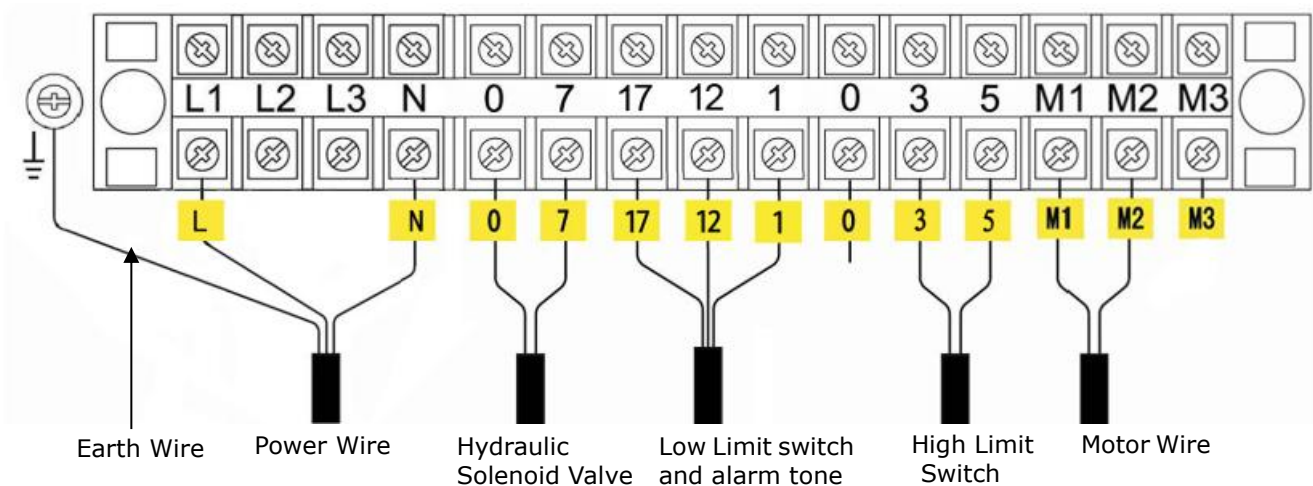

Fig. 29
2.1 Connect the wire of power and limit switch as below wiring diagram (See Fig.29).